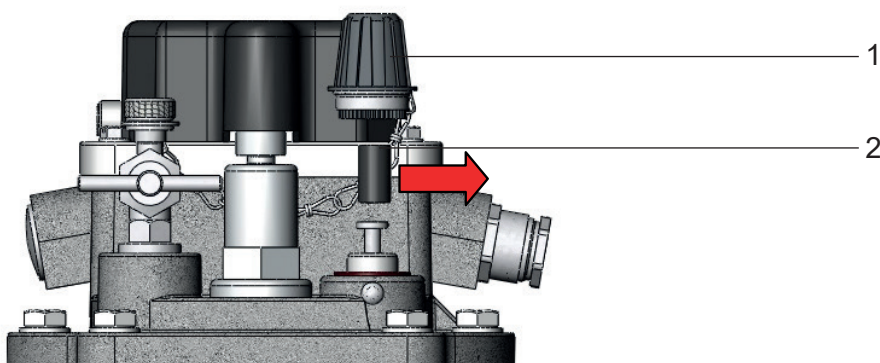

Figure 3 - Removal of transport lock
- Remove the large cap nut (Fig. 3/ N° 1)
- Take the transport lock (Fig. 3/ N° 2) out of the large cap nut